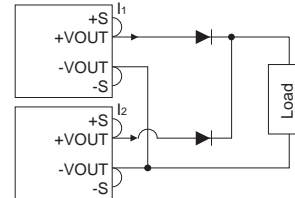

Fig.5.2 Parallel redundancy operation
- Parallel redundancy operation is available by connecting the units as shown Fig.5.2.